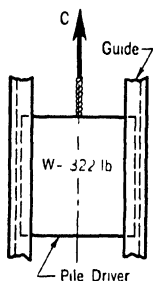

FIG. 396. LIFTING FORCE, PROBLEM 4
4. A pile driver (Fig. 396) weighing 322 lb. is raised with an acceleration of 9.6 ft. per sec.². The total frictional resisting force in the guides is 200 lb. What is the force in the cable C ? (Do not overlook the force of gravity in the vertical sum.)